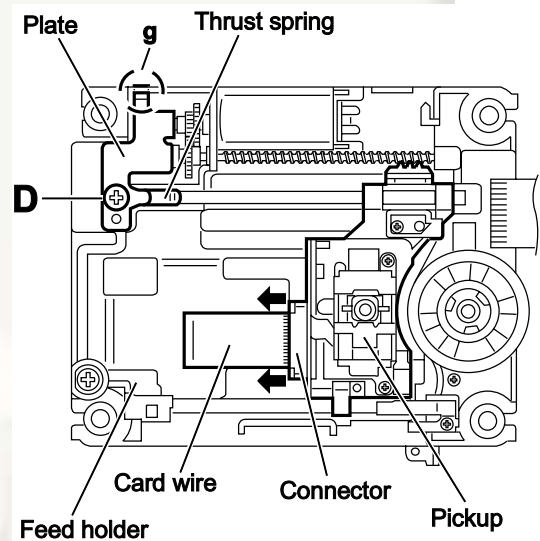

Fig.7
- (2) Release the lock of the connector on the pickup in the direction of the arrow and disconnect the card wire. (See Fig.7.)
- (3) Remove the screw **D** attaching the plate and thrust spring. (See Fig.7.)
- (4) Remove the engagement section **g** attaching the plate to the feed holder and remove the plate with the thrust spring. (See Fig.7.)
- (3) Attach the plate and thrust spring. (See Fig.7.)
3.2.6 Removing the feed motor (See Figs.7,11 and 12)
- (1) From the top side of the traverse mechanism assembly, remove the screw **D** attaching the plate and thrust spring. (See Fig.7.)
- (2) Remove the engagement section **g** attaching the plate to the feed holder and remove the plate with the thrust spring. (See Fig.7.)